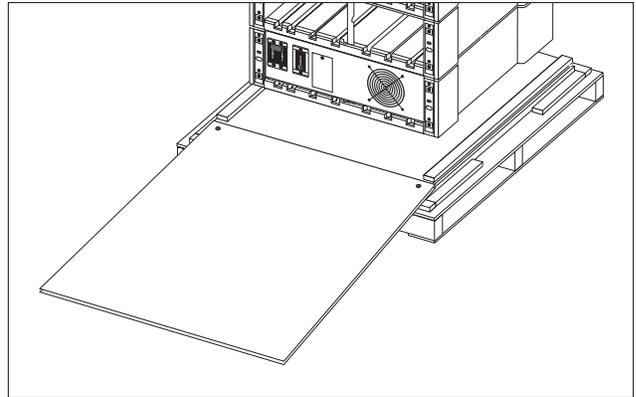

**Fig 3-2** Frame Restraint and Ramp Holes
2. **Remove Two Pallet Restraint Screws** - See Figure 3-2. Remove the two phillips-head, pallet restraint screws. Use the cloth handle to remove the frame restraint from the pallet. Place the frame restraint and two screws to one side.